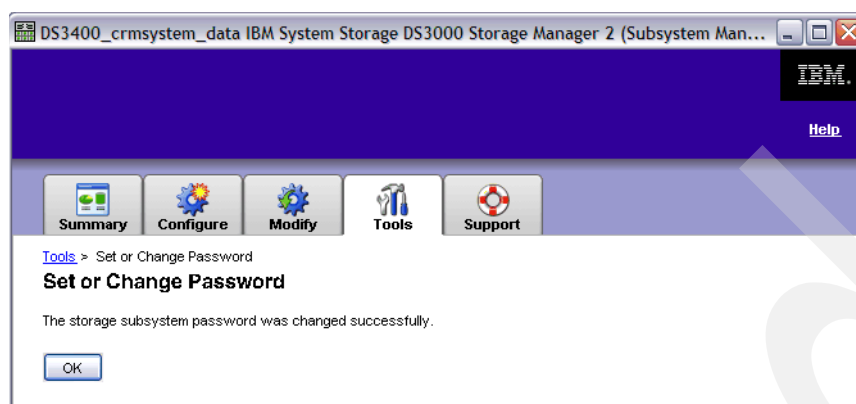

Figure 12-6 Set or Change Password successful
5. The DS3000 password is now set (Figure 12-6). Click **OK** to return to the Tools tab.